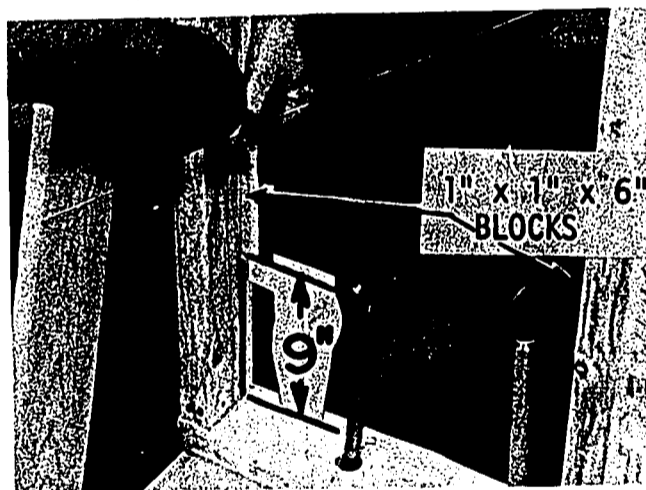

Fig. 51-10. Installing Blocks for Backing Boards (5" nipples are removed.)
3. Nail 1" x 1" x 6" blocks to the studs 9" up from the sole plate as shown in Fig. 51-10.